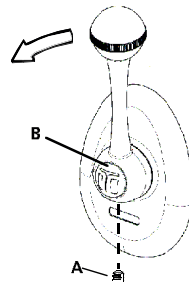

Fig. 17
- Tighten the clamp screw (A fig. 17) and make sure the lever is securely attached to the shaft.
- Move the lever to engaged gear position. Push the neutral position button (B fig. 17) firmly in place.